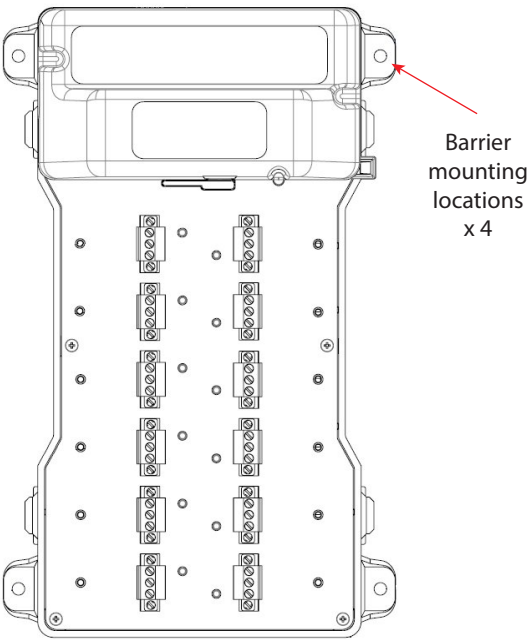

Figure 6.1 – Removing a barrier module
- d) The barrier is secured to the backplane of the enclosure by four M5 flange nuts. (See Figure 6.1 for their locations.) Loosen these in turn and remove them to free the barrier and remove it from the enclosure.